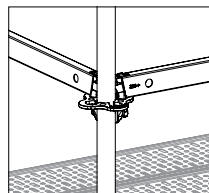

Fig. B1.03a
4. Attach Ledgers UH (3) and securely fix with wedges. (Fig. B1.03a)
5. Securely fix wedges for Ledger-to-Ledger UHA (15).